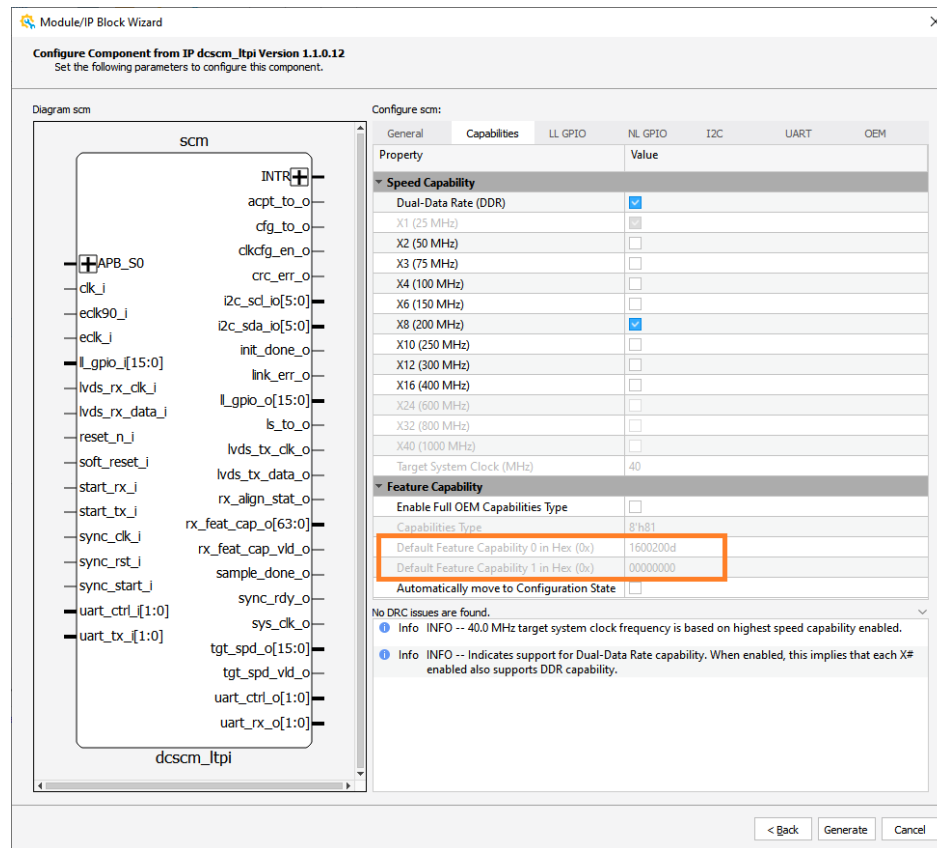

Figure 11.1. Feature Capabilities
- This occurs when the feature capability of HPM and SCM does not match, meaning that one or more of the enabled or disabled interfaces do not match. This can be checked using the **Capabilities** tab of the IP (as shown in Figure 11.1).